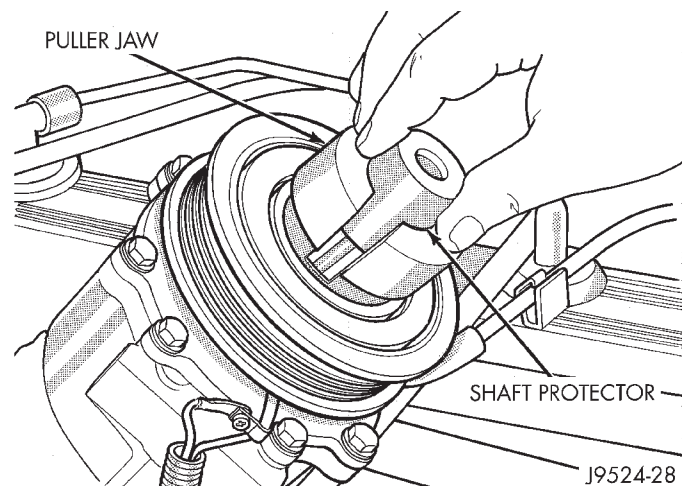

Fig. 7 Shaft Protector and Puller
(7) Install lip of rotor puller 6141-1 into the snap ring groove exposed in the previous step and install shaft protector 6141-2 (Fig. 7).